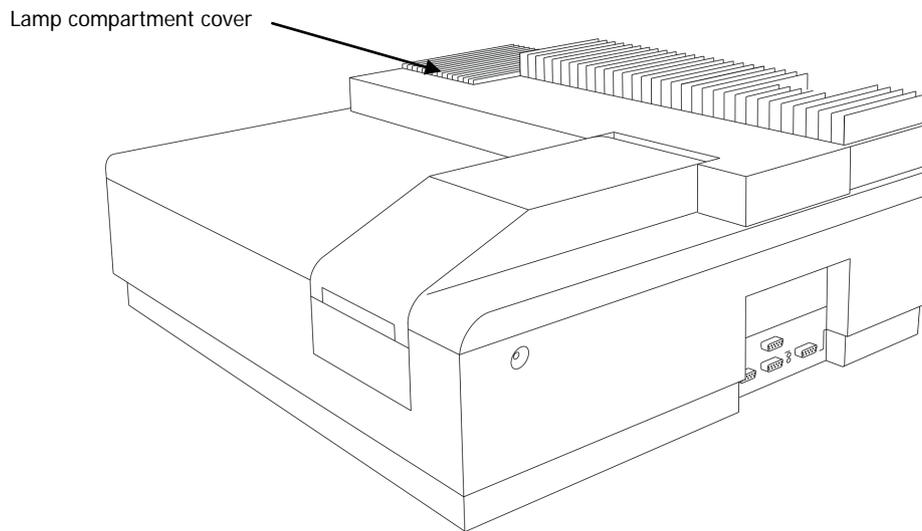

Figure 17 Lamp compartment
2. Remove the lamp compartment cover as shown in Figure 17 on page 81, by pressing down the catch and pushing the cover to the left.
1. Remove the lamp compartment cover as shown in Figure 17 on page 81, by pressing down the catch and pushing the cover to the left.